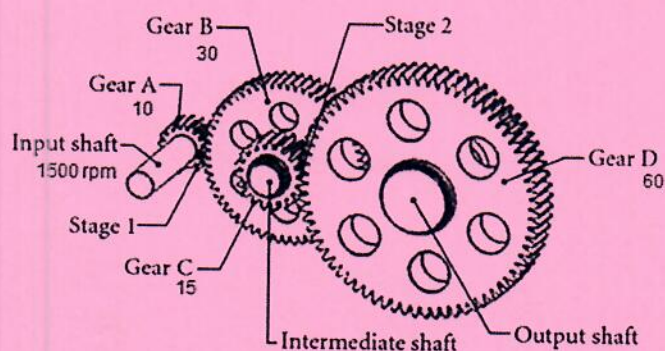

Figure 3 A two stage gearbox
- a) Figure 3 shows a two stage gear reduction system for a forage harvester.